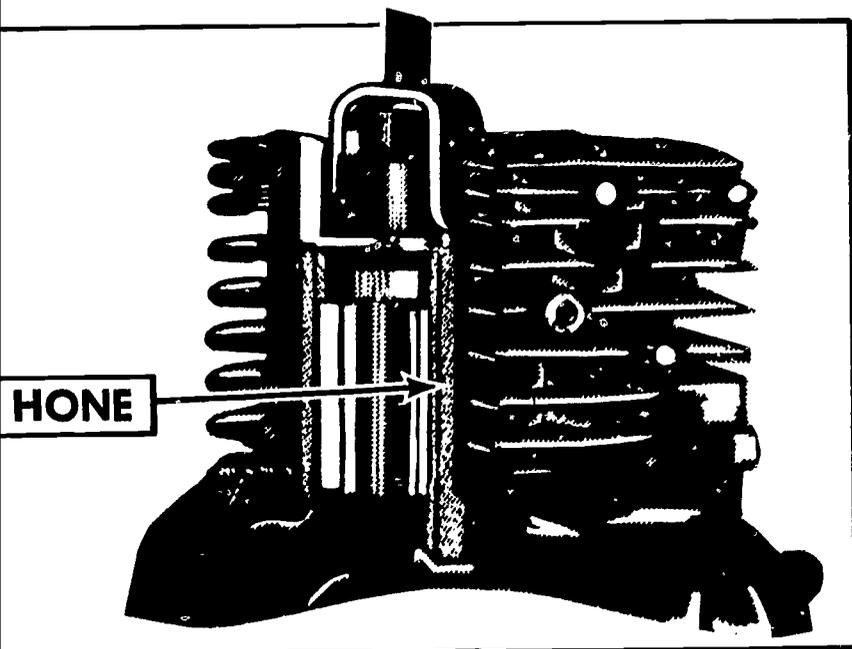

FIGURE 275. Allow the stones to protrude $\frac{1}{2}$ to 1 inch below and above the cylinder when honing.
4. *Lower the hone to the point where the lower end protrudes $\frac{1}{2}$ to $\frac{3}{4}$ inch past the end of the cylinder (Figure 275).*